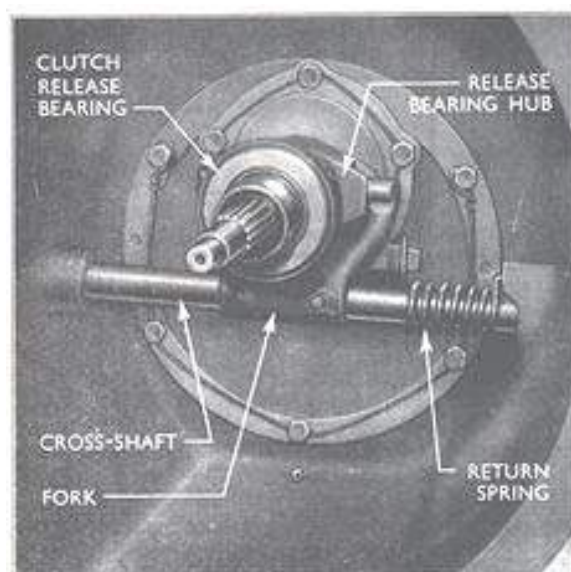

Fig. 2
3. Rotate the fork towards the front of the clutch housing and slide the release bearing and hub assembly, bearing outermost, into position, at the same time engaging the fork with the slotted arms of the hub. Rotate the fork to the rear and, with the hooked end of the return spring located around the lug cast in the housing, engage the inner end of the spring with the front face of the small projection on the side of the fork (see Fig. 2).